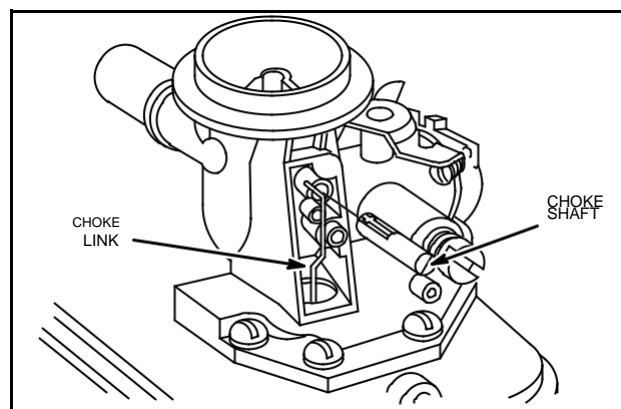

Fig. 225 - REMOVING AUTOMATIC CHOKE,
2. Then slide choke link out choke shaft lever. Pull shaft out of plate, Fig. 225.